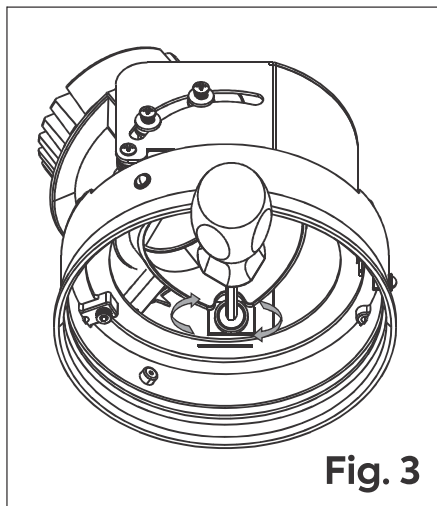

Fig. 3
Step 3: Insert the 1/8" Allen Key into the adjustment dial and turn to the desired tilting angle. Rotate counterclockwise to increase the tilt and rotate counterclockwise to decrease the tilt **Fig. 3**.